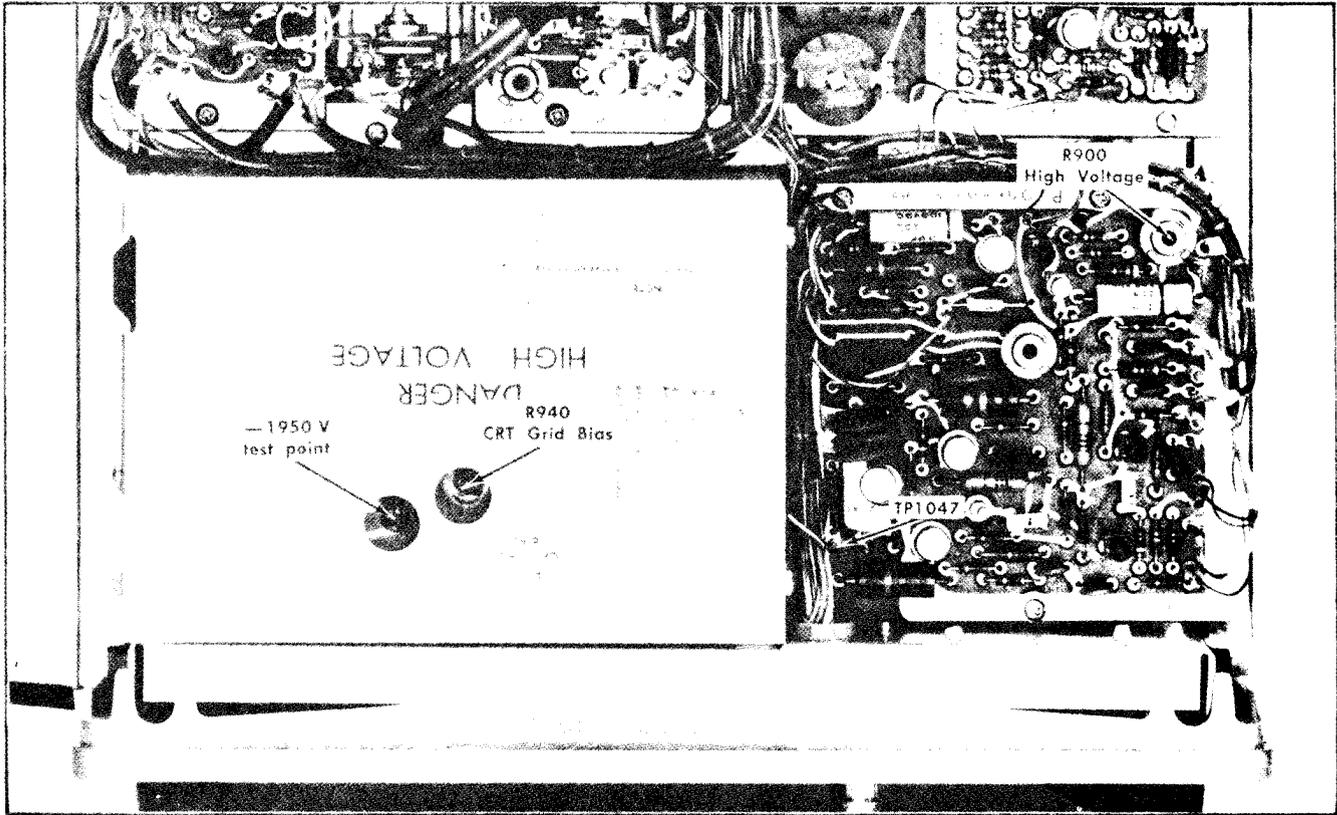

Fig. 6-6. Location of high-voltage adjustments and test points (bottom).
4. Adjust High-Voltage supply and Check Regulation ❶
a. Connect the DC voltmeter (use the precision 2 kV divider) from the -1950 V test point (see Fig. 6-6) to chassis ground.
c. ADJUST-High-Voltage adjustment, R900 (see Fig. 6-6), for -1950 volts.
5. Adjust CRT Grid Bias ❶
a. Connect the precision DC voltmeter from TP1047 (Z Axis Amplifier board; see Fig. 6-6) to chassis ground.
d. ADJUST-CRT Grid Bias adjustment, R940 (see Fig. 6-6), so the spot just disappears (it may be necessary to turn the horizontal POSITION control clockwise to bring the spot onto the viewing area).